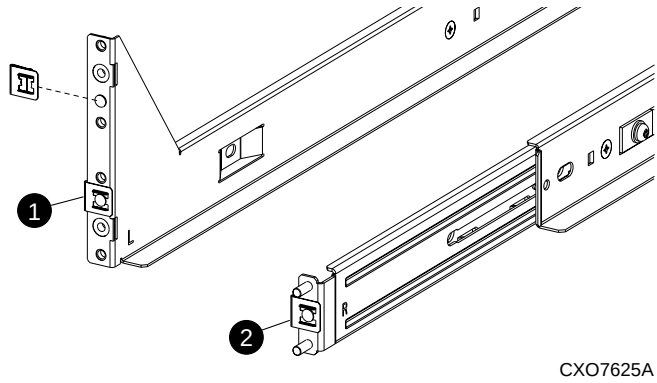

Figure 6: Alignment clip removal
- For each mounting bracket, remove two alignment clips from each bracket-front ❶ and one alignment clip from the bracket-rear ❷. See Figure 6.